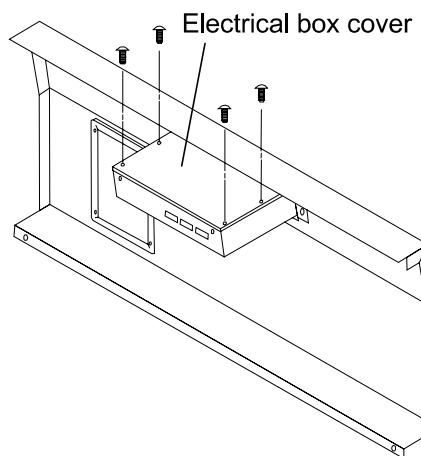

Fig. 2
4. Remove four screws fixing the electrical box cover with a screw driver. (Fig. 2)